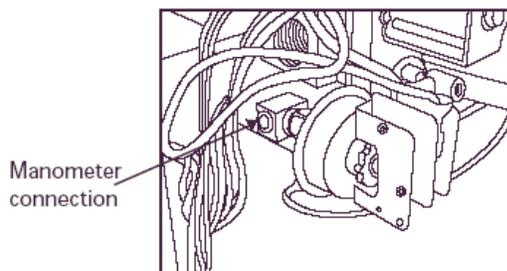

Fig. 4 - Low Gas Pressure Switch
- B. Apply pipe dope sparingly to one end of 1/8--in. (3 mm) brass male coupling and install the doped end into 1/8--in. (3 mm) tapped opening in gas valve inlet pressure--tap. Tighten fitting with a small open--end wrench. (See Fig. 4.)
- D. Apply pipe dope sparingly to male end of brass tee. Install propane low gas pressure switch on male end of the female x female x male tee. (See Fig. 4) Tighten switch finger tight. Use a small open--end wrench on base of pressure switch for final tightening.
- E. Connect a manometer to the open end of the tee installed in the gas valve. (See Fig. 4.)